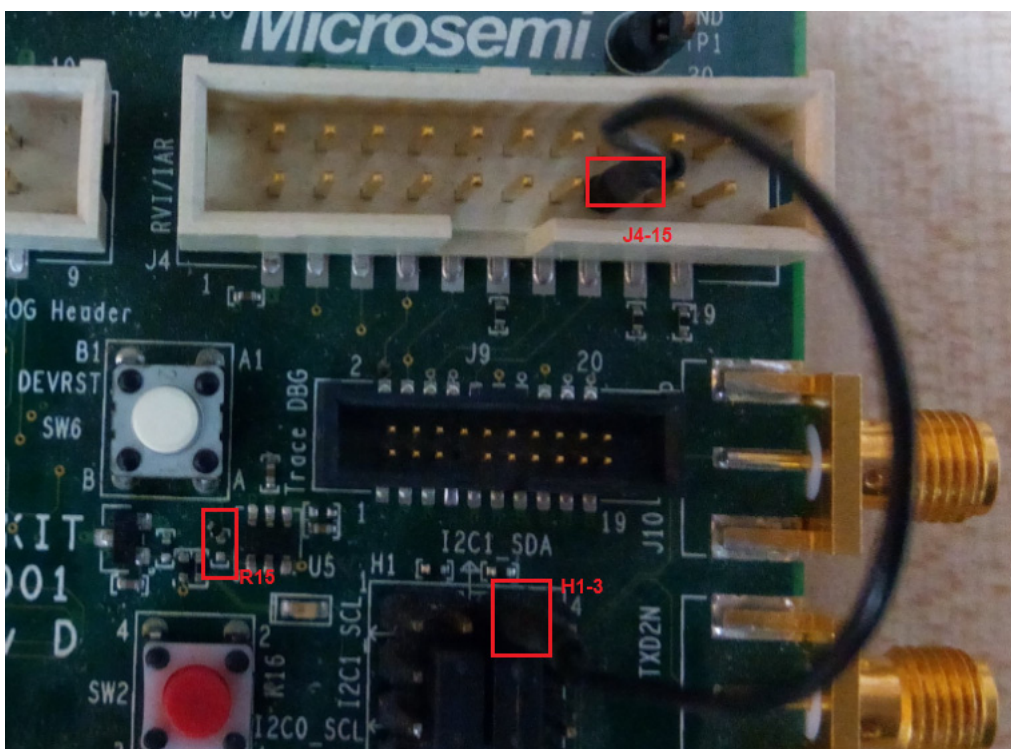

Figure 11 • Board Level Changes
2. Connect RVI header J4-15 pin (DEVRESET_N pin) to the I²C header H1-3 pin (MSS GPIO_0 pin). The MSS GPIO_0 pin is connected to DEVRESET_N, as shown in Figure 11.